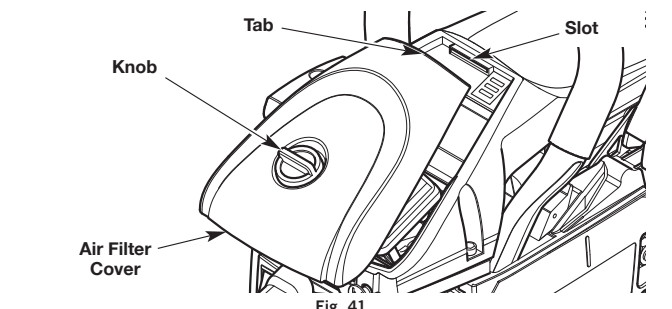

Fig. 41
1. Turn the knob on the air filter cover counter-clockwise to loosen the air filter cover (Fig. 41).
2. Remove the air filter cover (Fig. 41).
- Place the air filter cover back onto the unit. Insert the tab on the air filter cover into the slot on the chain saw housing (Fig. 41).
- Turn the knob on the air filter cover counterclockwise to loosen the air filter cover (Fig. 41).
- Remove the air filter cover (Fig. 41).